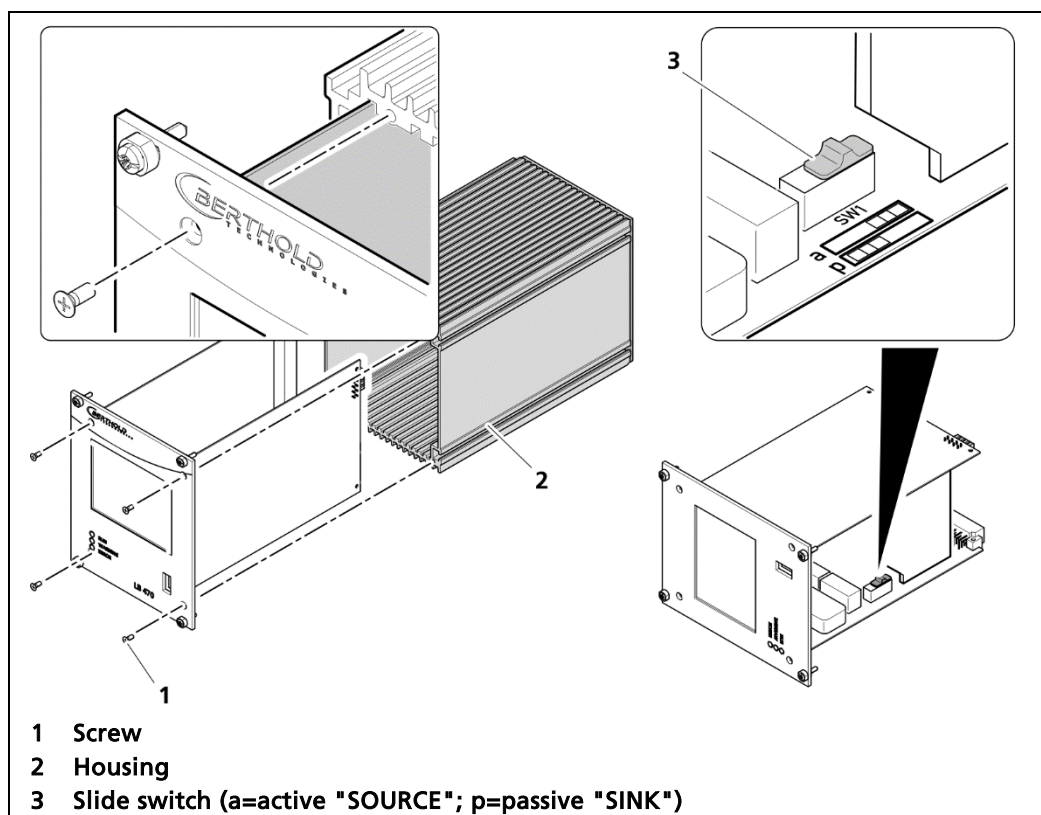

Fig. 24 Switching of the current output
1. Loosen the four sunken screws on the front side of the EVU (Fig. 24, item 1).
2. Pull out the housing (Fig. 24, item 2) carefully.
3. Slide the switch (Fig. 24, item 3) to position a for "active" (SOURCE), to position p for "passive" (SINK).
5. Screw the front panel to the housing (Fig. 24, item 2) with the four screws (Fig. 24, item 1).